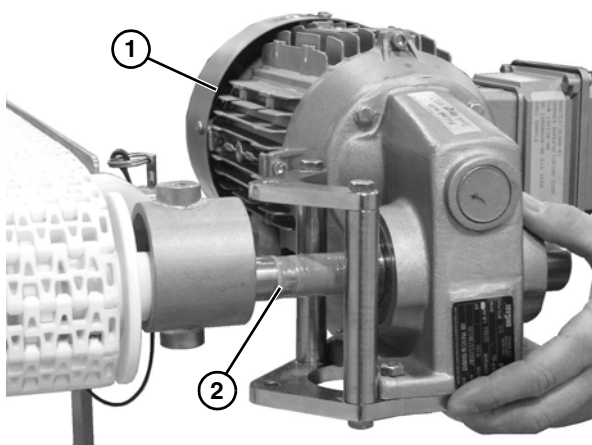

Figure 5
2. Slide the gearmotor assembly (**Figure 5, item 1**) onto
the drive spindle (**Figure 5, item 2**).